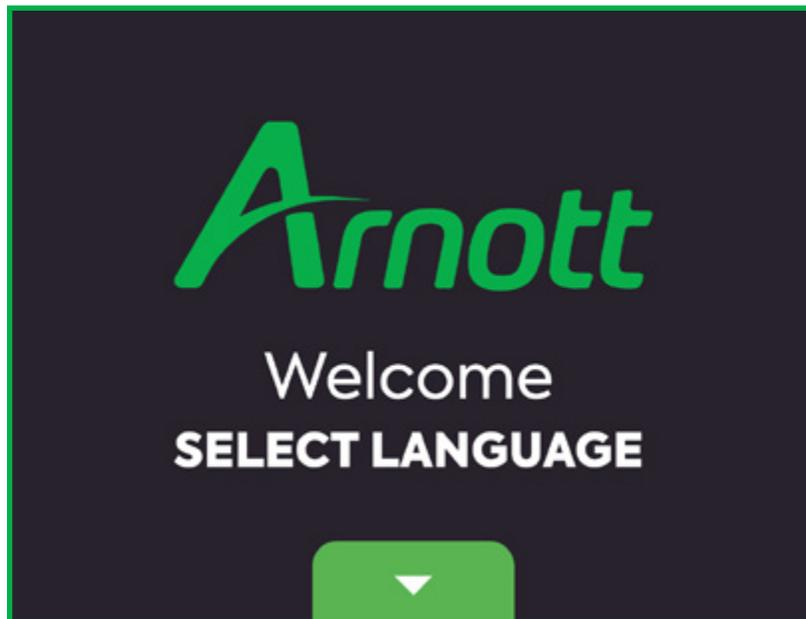

FIGURE 4
5. Power up the console with the included power cable. Power on the controller with the included 12V power cable or USB-A to USB-C cable. The welcome screen should appear followed by the language selector. (Figures 4, 5)